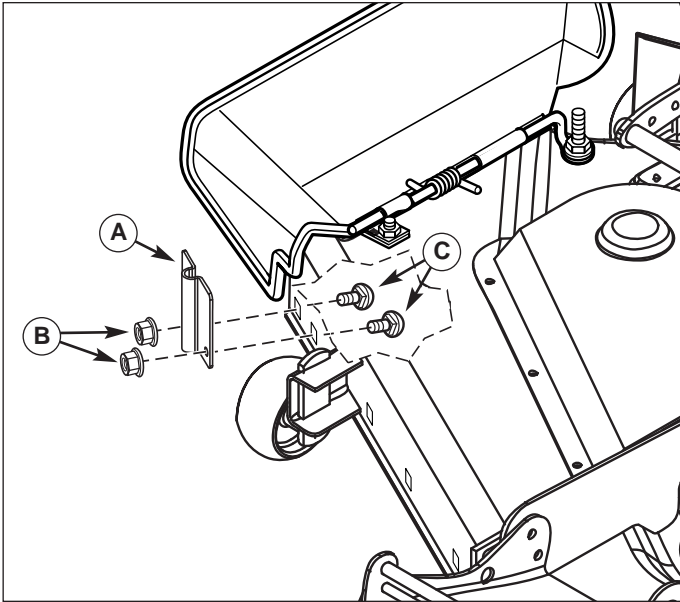

Figure 5. Install Mounting Plate
1. Install mounting plate (A, Figure 5) to mower deck as shown. Secure with 5/16-18 x 5/8 carriage bolts (C) and 5/16-18 locknuts (A).